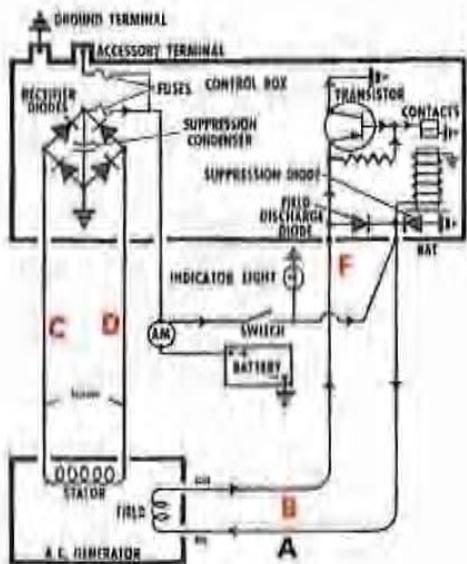

Figure 30
- A. If the lead from the field winding to the "F" terminal of the regulator (marked "B" in the wiring diagram Fig. 30) should become grounded. Battery will be charged excessively.
- C. A short circuit between leads from the stator winding to the rectifier (wires marked "C" and "D", Fig. 30) or from these becoming grounded. Ammeter will show a discharge and an undercharged battery would result,